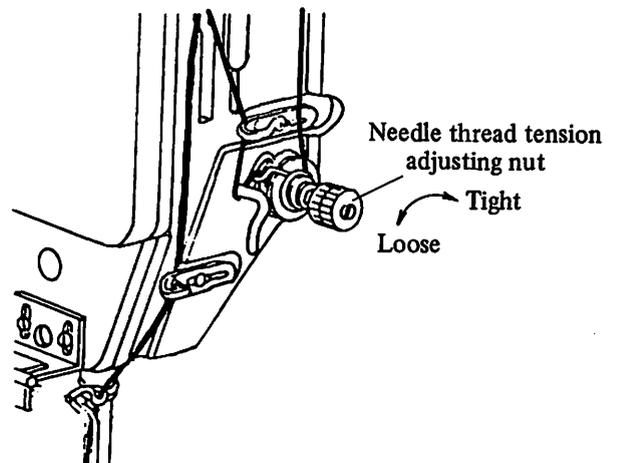

Fig. 14
4.10.2 Needle thread tension (Fig. 14)
To adjust needle thread tension, turn the needle thread tension adjusting nut shown in Fig. 14.